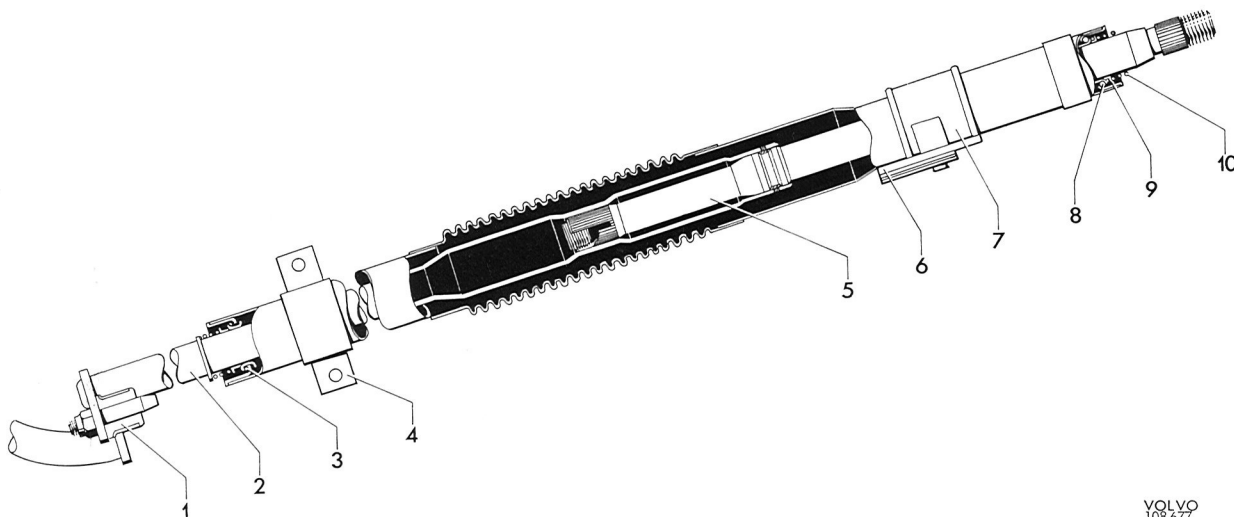

Fig. 6-40. Steering column journaling
The steering column is divided. Its upper section is journaled by two ball bearings in a jacket, which is attached to the body by a rubber bushing (4, Fig. 6-40) and slide (6). The lower and upper sections of the steering column are linked by a safety device (1). In a frontal collision, causing compression of the front end, the lower steering column flange breaks loose from that of the upper section and the lower section pushes upwards. The upper section remains in position and this eliminates possibility of the steering wheel being forced backwards and upwards inside the car.